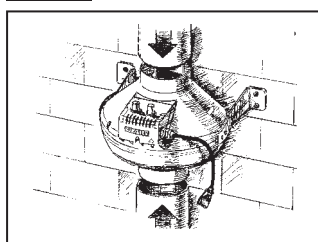

Fig. 13
6. Connect air ducts, fig. 13.